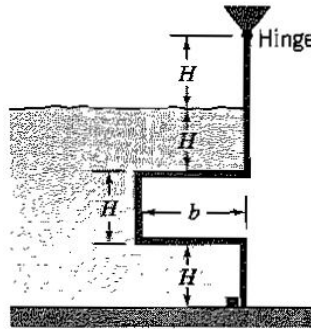

Figure P2.88
2.88 A rigid gate of width W is hinged without friction at a point H above the water surface, as shown in Figure P2.88. Find the ratio b/H at which the gate is about to open. Neglect the weight of the gate.